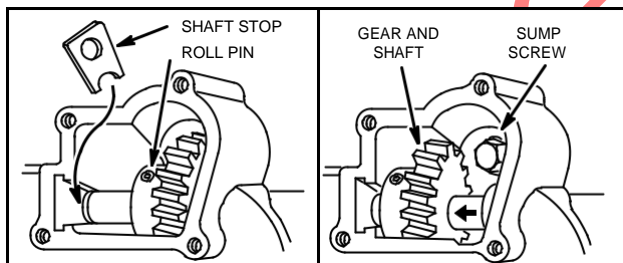

Fig. 154 - REMOVE AND INSTALL SUMP SCREW
**NOTE:** One of the six (6) sump mounting screws is located under the auxiliary drive cover.
3. Lift out shaft stop, Fig. 154.
**NOTE:** Sump is held on by six screws. Five screws are exposed. The sixth screw is under the auxiliary drive cover, Fig. 154.
2. Remove cover and lift out shaft stop, Fig. 154.